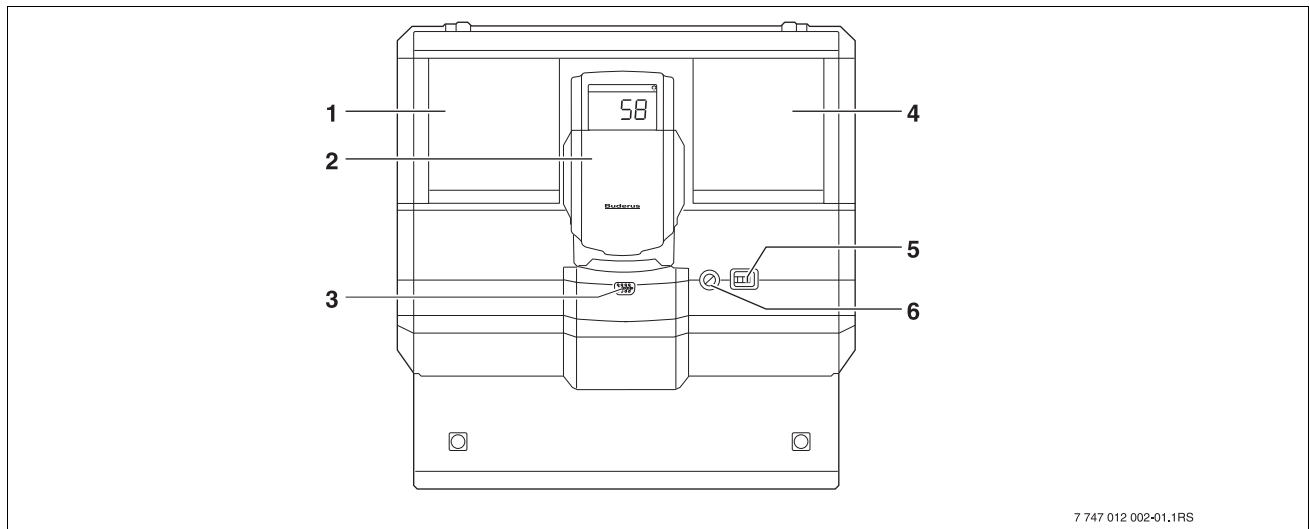

Fig. 4 Controls (example: Logamatic 4122)
- Switch the control unit on by setting the ON/OFF switch to "I" (→ Fig. 4, [5], page 13).
- Switch the control unit off by setting the ON/OFF switch to "0" (→ Fig. 4, [5], page 13).